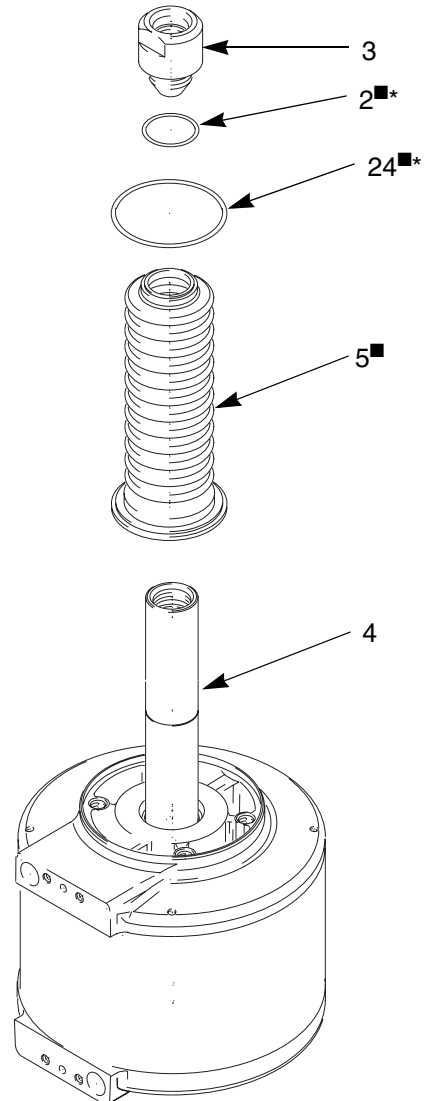

FIG. 10
2. Remove the housing (6) from the air motor by removing screws (10). Be careful not to lose the associated lock washers (11).
3. Pull on the threaded connector (3) to verify that the piston rod (4) is in its fully extended position.
4. Loosen and remove the threaded connector (3).
5. Remove bellows (5[■]) and o-rings (24[■], 2[■]) (FIG. 10).
See FIG. 10.